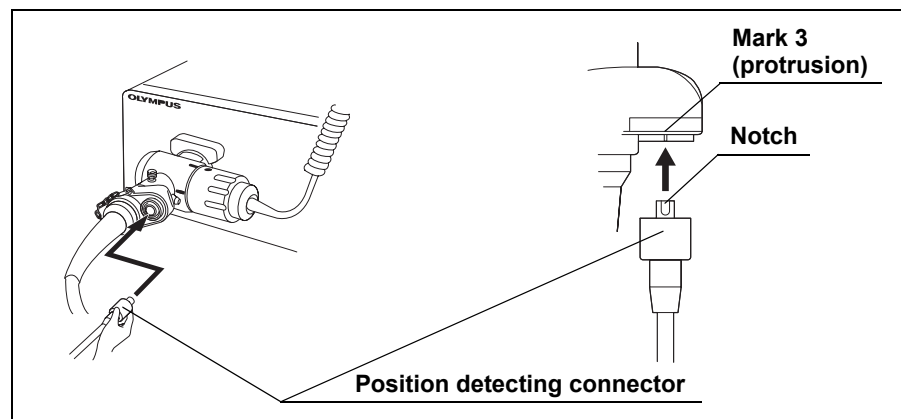

Figure 3.22
9. Align the notch on the endoscope plug of the UPD cable with mark 3 on the UPD scope connector of the endoscope and push the endoscope plug into the UPD scope connector until it stops (see Figure 3.22 for CF-Q260DL/I only).